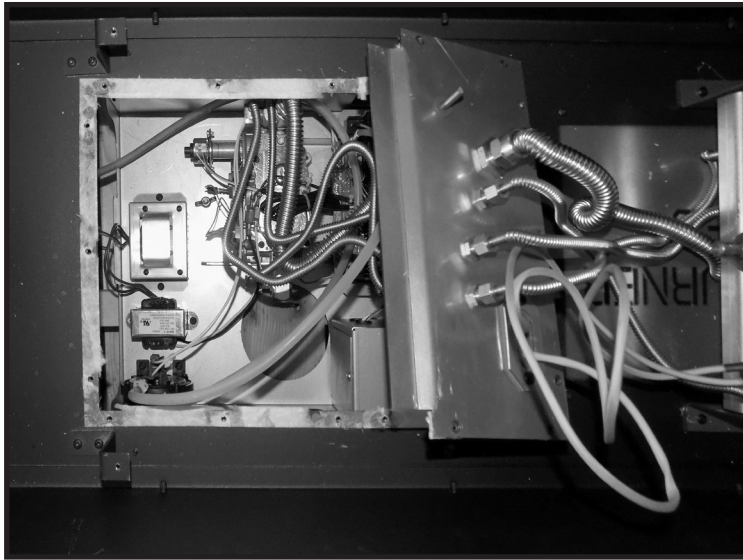

Figure 49: Small plate lifted to provide access to connector.
3. Remove screws for the small cover panel and lift the panel and flexible gas lines enough to be able to get your hand underneath it (Figure 49).